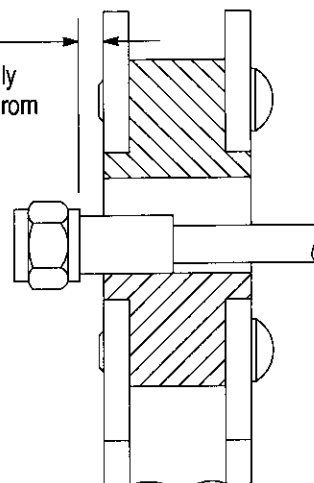

Figure 3
2. Place connector in bottom half of die assembly so that the shoulder on the connector is approximately 3.18 [.125] from end of die. See Figure 3.